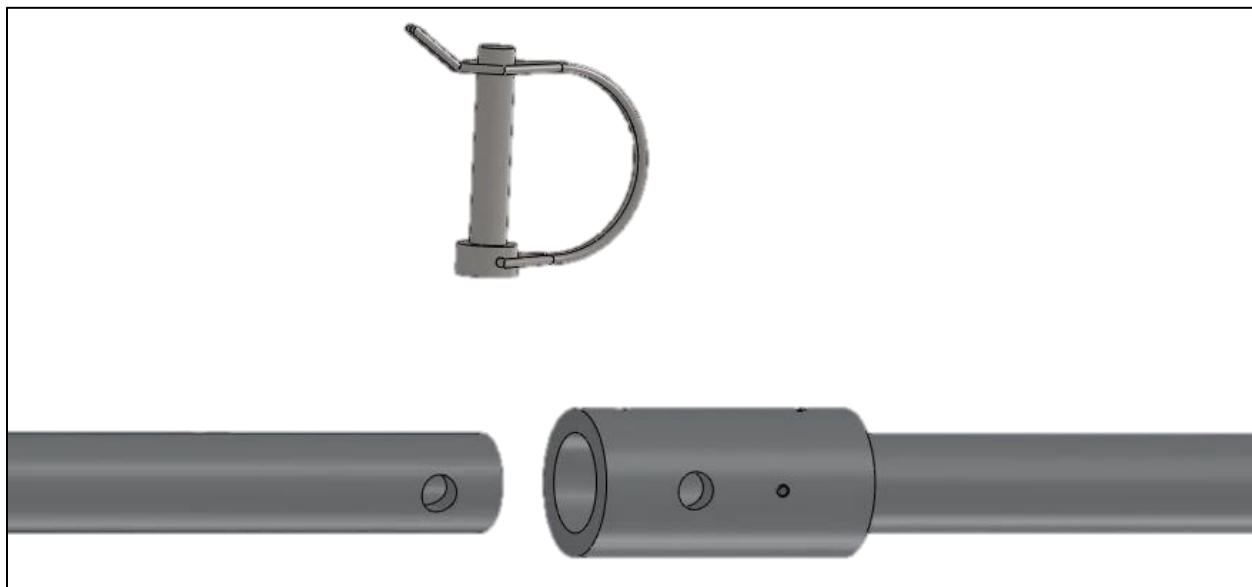

Figure 2: Assemble Drill Extension
6.3.2.5 Align the holes and insert another safety pin (Figure 2).